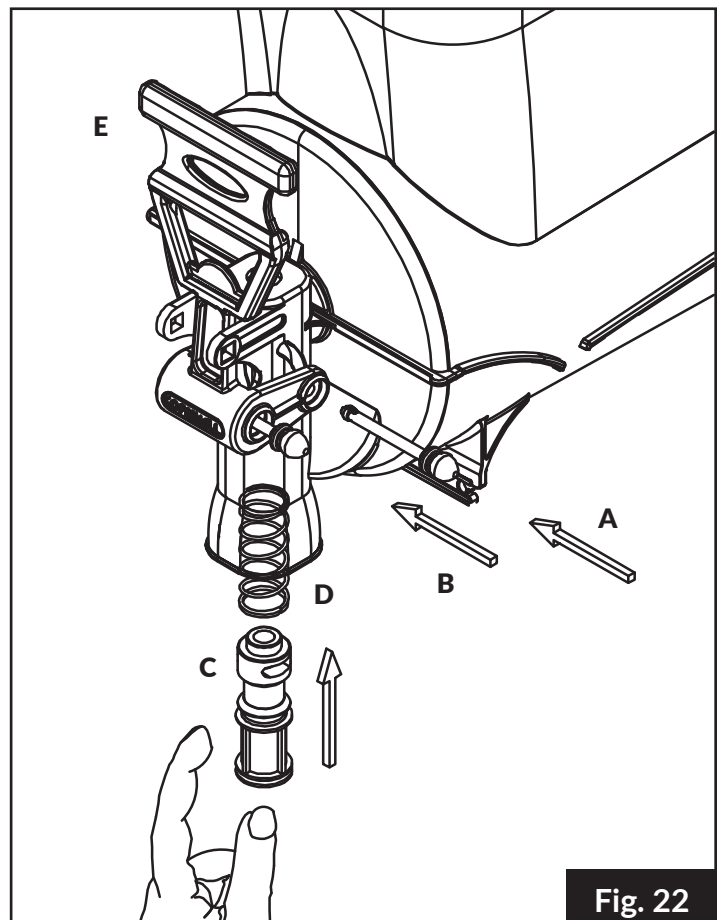

Fig. 22
### Dispensing Tap (Fig. 22)
Insufficient lubrication	Lubricate Tap Valve (C) correctly (see Fig. 22)